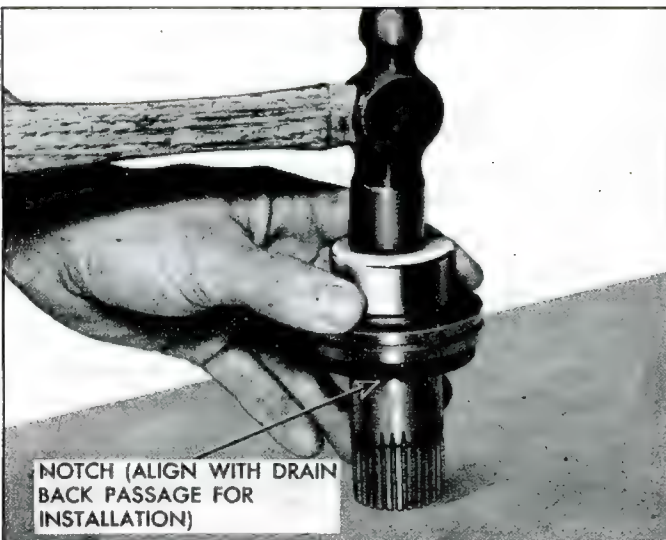

Fig. 40—Installing Pinion Rear Oil Seal in Stator Shaft with J-8448-1
2. Install new seal using J-8448-1 as illustrated (fig. 40). Press seal until it bottoms.
4. Align notch in stator shaft (fig. 40) with drain back